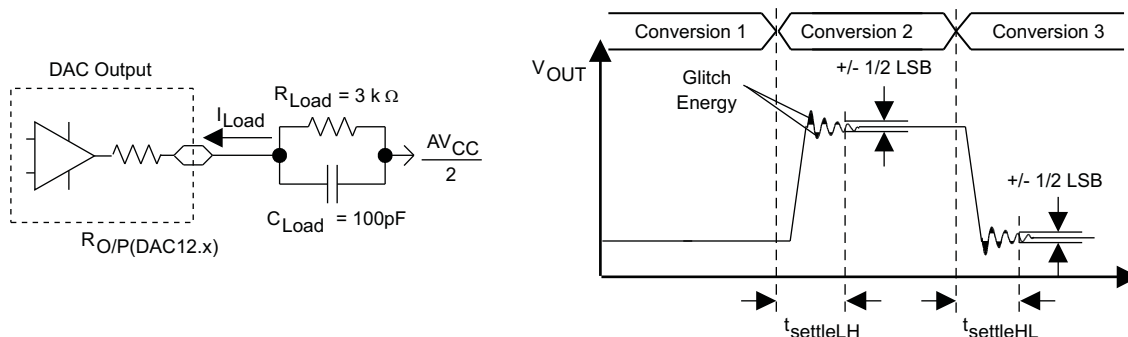
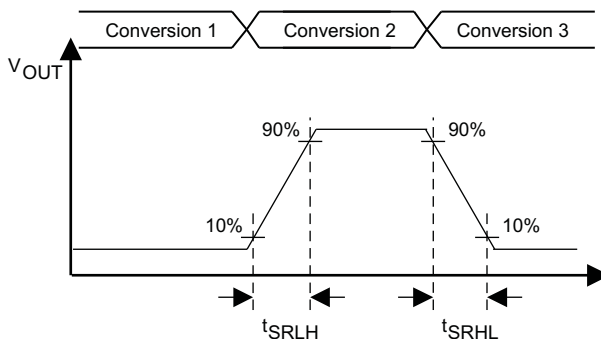

Figure 5-30. Settling Time and Glitch Energy Testing
Figure 5-31. Slew Rate Testing
$V_{ref} = V_{CC}$ , DAC12IR = 1, over recommended ranges of supply voltage and operating free-air temperature (unless otherwise noted) (see Figure 5-30 and Figure 5-31)
(1)  $R_{Load}$  and  $C_{Load}$  connected to  $AV_{SS}$  (not  $AV_{CC}/2$ ) in Figure 5-30.
(2) Slew rate applies to output voltage steps  $\geq 200$  mV.